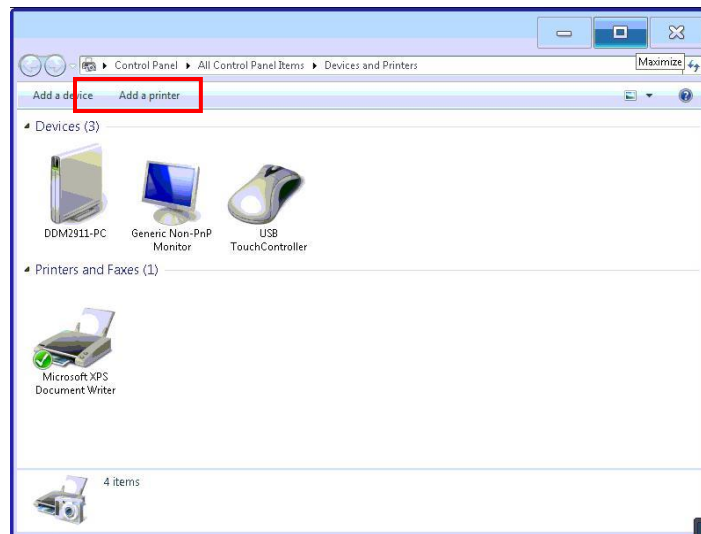

Figure 10.16 – Select Add a printer.
- 3) Select **Add A Printer** at the top of the window as shown in the image below. (see figure 10.16)